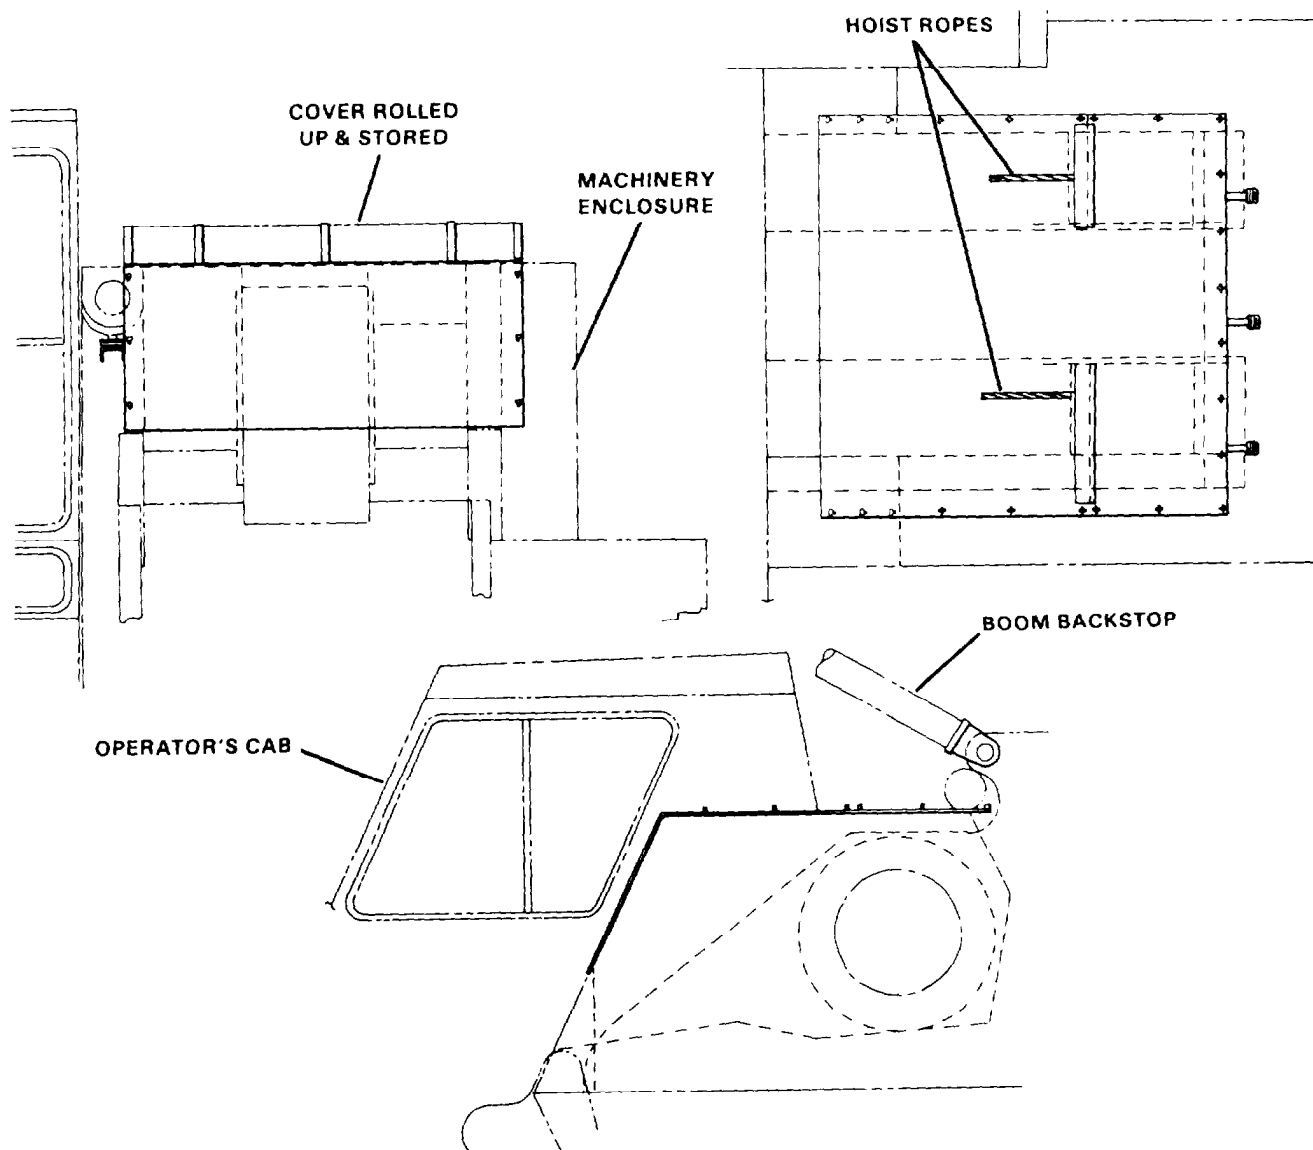

Figure 2-7. Drum Cover
52. DRUM COVER. A drum cover is provided (see Figure 2-7) to protect the drums and rope. If the drum cover is to be used with the hoist rope in place, adjust boom angle to align the hoist ropes with the slots in the cover. Close the remainder of the slot using the built-in VELCRO® closure. The cover is to be used for MACHINE STORAGE ONLY. Roll up and tie back the cover as shown before operating the machine or when the machine is being lifted by the forward lifting lugs.